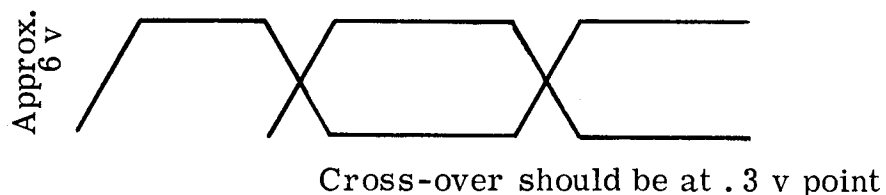

Figure 5-2. Keyer Circuit Output
b. REMOTE KEYING CHECK. - Set KEYING CONTROL at REMOTE, KEYING SELECTOR at 50 V, and set square wave generator for 50 volt output and frequency for 21 cps. Using teletype loop battery, adjust it for 50 volts peak at terminals 12 and 13 of TB101. Connect the 6-volt battery and 100-ohm resistor across terminals 7 and 8 of TB102. Using oscilloscope, observe signal across 100-ohm resistor; the wave form should be as illustrated in figure 5-2.
Repeat same check, using terminals 9 and 10 of TB102, but change KEYING SELECTOR to 100 V and adjust teletype loop battery for 100 volts. The observed signal on the oscilloscope should be as illustrated in figure 5-2.
Change KEYING SELECTOR and teletype loop battery to 20 ma. The observed signal on the oscilloscope should be as illustrated in figure 5-2. Repeat this check, but set KEYING SELECTOR and teletype loop battery to 60 ma; the observed signal on the oscilloscope should be as in figure 5-2.